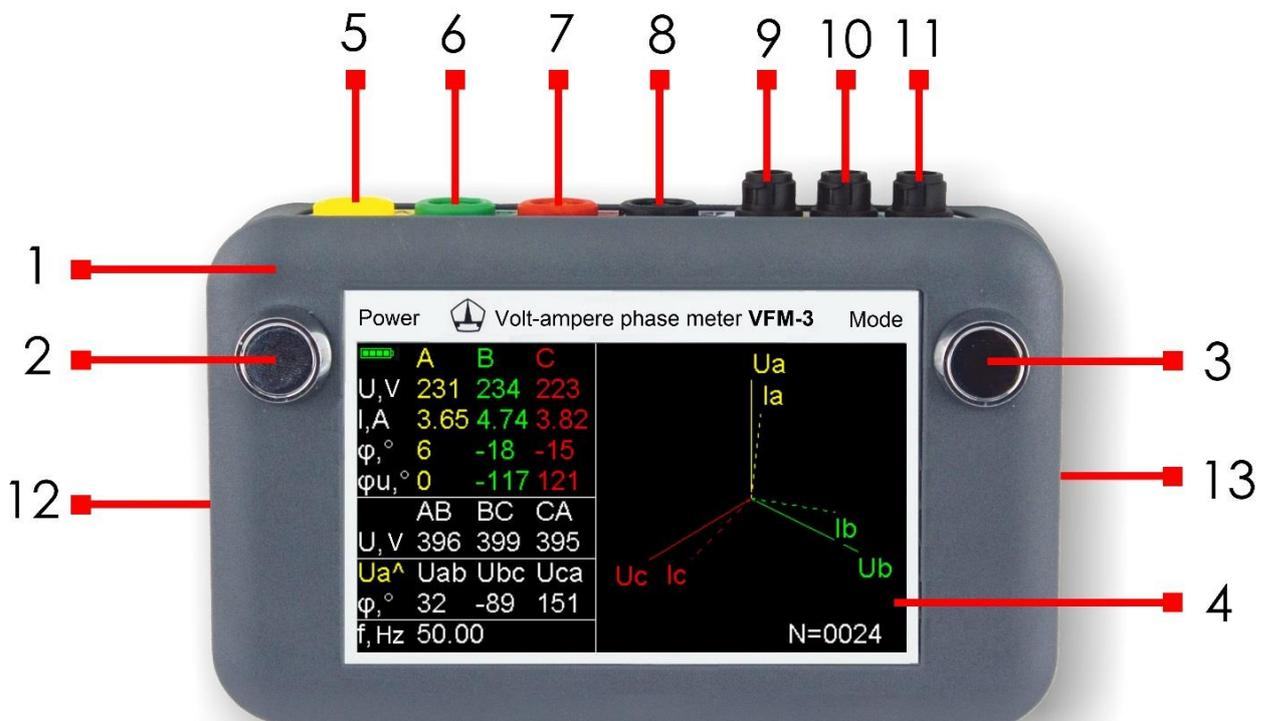

Fig. 1. General view of the device.
The device appearance is shown in Fig. 1. The device is put into an isolated case made of high impact plastic. The case consists of: an upper cover (1) and a bottom plate, fixed by 4 screws. On the upper cover (1) there is a power on button (2) and a button for switching to the measurement mode (3), LCD screen (4). On the upper side of the case there is a yellow socket (5) for connecting phase A voltage signal, a green socket (6) for connecting phase B voltage signal, a red socket (7) for connecting phase C voltage signal, a black socket (8) for connecting to neutral. Sockets (9, 10, 11) on the side surface of the device are used for connecting clamp meters to phases A, B and C respectively. Socket (12) is intended for plugging in the charger supplied with the device. Connector (13) on the side of the device - mini USB connector for connecting the device to a computer.